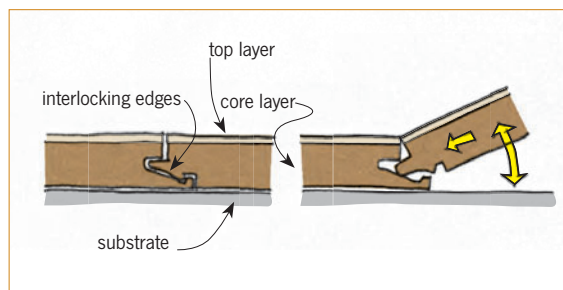

Figure 1: Interlocking flooring system.
**3.1.1** Loose-laid or floating flooring uses floor planks that have specially shaped interlocking profiled edges so the floor is connected by being locked together as a single unit (Figure 1) or a tongue and groove joint. This system does not require gluing, and the flooring effectively ‘floats’ over the substrate. It must be laid over a resilient underlay to prevent the floor from ‘drumming’ or vibrating when walked on.
**4.1.9** Timber veneer overlay flooring may be installed as a floating floor of interlocking planks (see Figure 1) or glue-fixed.